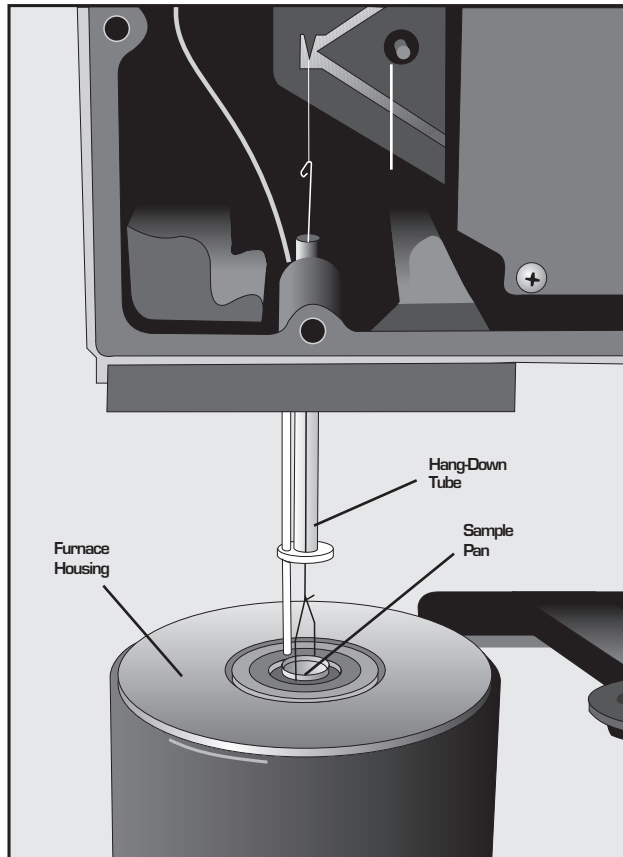

Figure 2.17
2. Check the alignment of the sample pan within the furnace. It should hang freely, roughly centered, and should not be touching the sides of the furnace or the hang-down tube (Figure 2.17).